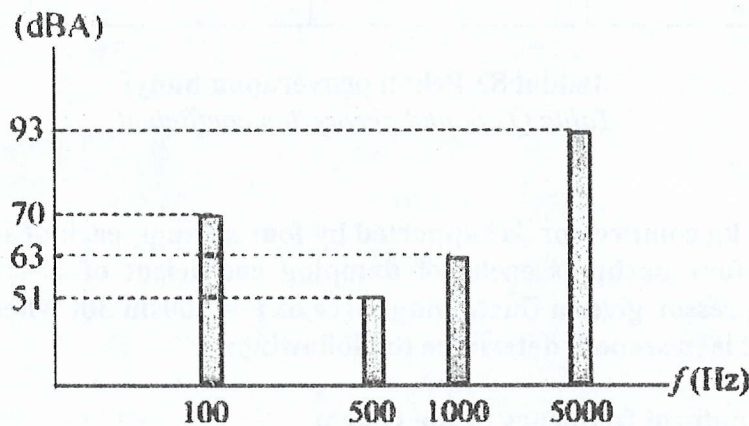

Figure Q2[c]
- [c] A result of A-weighted sound pressure level measurement is shown in Figure Q2[c]. Determine the total of C-weighted sound pressure level for the components.